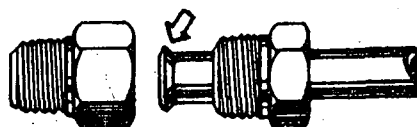

Fig. 9
- e) Install the swivels on the new tubing and make a flare at each end (Fig. 9).